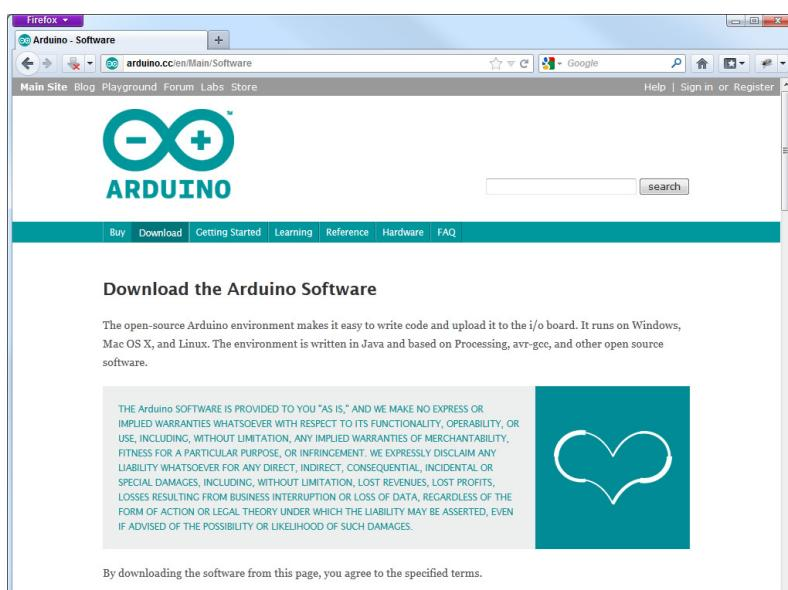

FIGURE 4-12: Download Arduino from the Arduino website.
1. Download the Arduino IDE from <http://arduino.cc/en/Main/Software/>. Figure 4-12 shows the Arduino download page.